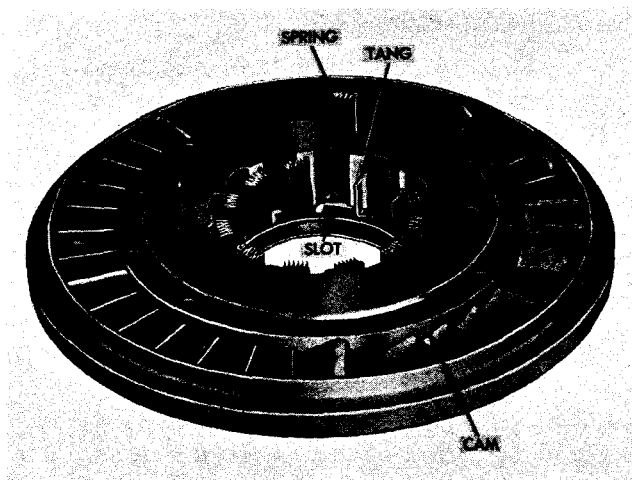

Fig. 6-9. Installing freewheel roller springs
(7) Hold the assembly securely together and turn it over. Install 12 freewheel roller springs on the spring retainer, positioning the springs by sliding the "hook" end of the spring over the tang, between the tang and the inner diameter of the cam (fig. 6-9). Each spring should be installed so that it is hanging from the tang over the slot in the spring retainer.